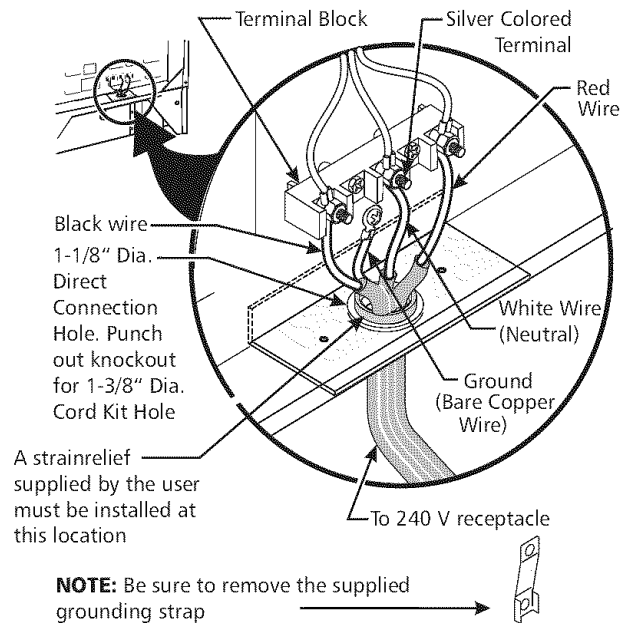

Figure 4
For mobile homes, new installations, recreational vehicles, or areas where local codes do not permit grounding through neutral, a 4 conductor power supply cord kit rated at 125/250 volts minimum, 40 amperes and marked for use with ranges should be used (see Figure 4).
4. Connect the ground wire (green) of the copper power supply cord to the frame of the appliance with the ground screw, using the hole in the frame where the ground strap was removed (see Figure 4).
6. Replace the 3 nuts on the terminal block (see Figure 4).
If the appliance is connected directly to the circuit breaker, fuse box or junction box, use flexible, armored or nonmetallic sheathed copper cable (with grounding wire). Supply a U.L. listed strain-relief at each end of the cable. At the appliance end, the cable goes through the Direct Connection Hole (see Figure 4) on the Cord Mounting Plate. Wire sizes (**copper wire only**) and connections must conform to the rating of the appliance.